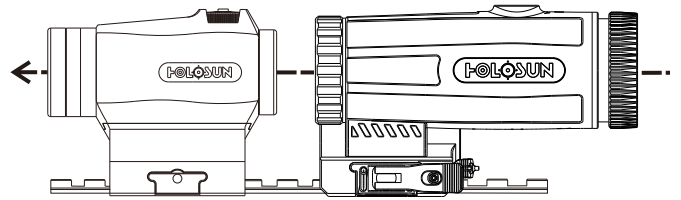

Fig 2
1. Combine the HM6X with a HOLOSUN sight for improved target identification at distance. (as shown in Figure 2)